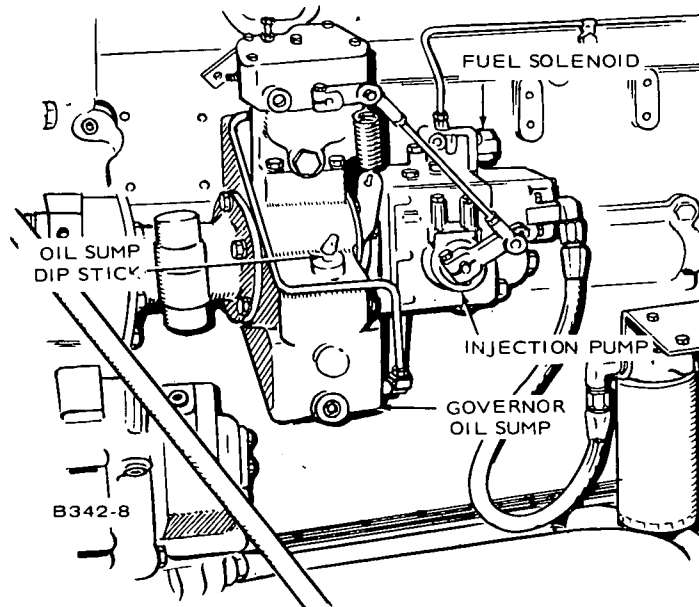

FIGURE 23. FUEL SOLENOID VALVE LOCATION
5. Disconnect wire from fuel solenoid valve (Figure 23), close throttle and crank engine while maintaining an external prime pressure of 15 psi (103 kPa), for 15 seconds.